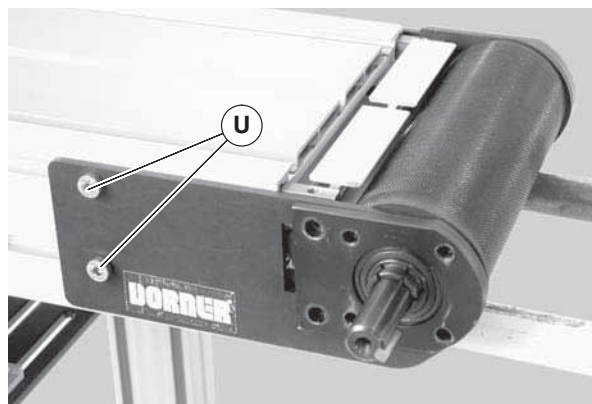

Figure 61
5. On the drive headplate, remove two (2) screws (Figure 61, item U).